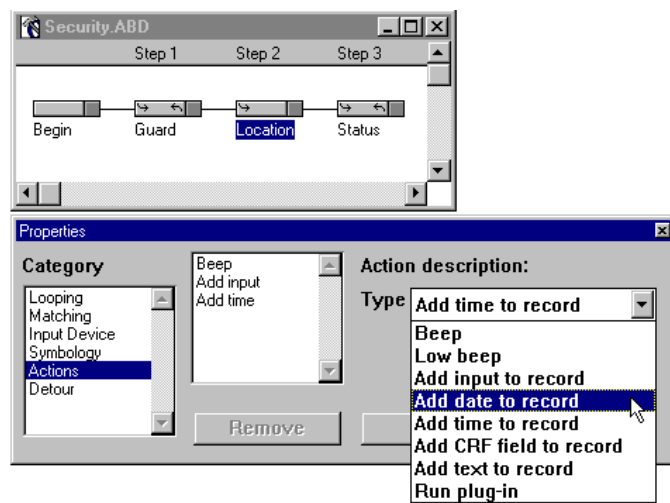

Figure 3-41 Actions Property - Add Date to Record
36. Select **Add date to record** from the **Action description** pop-up menu (Figure 3-41).